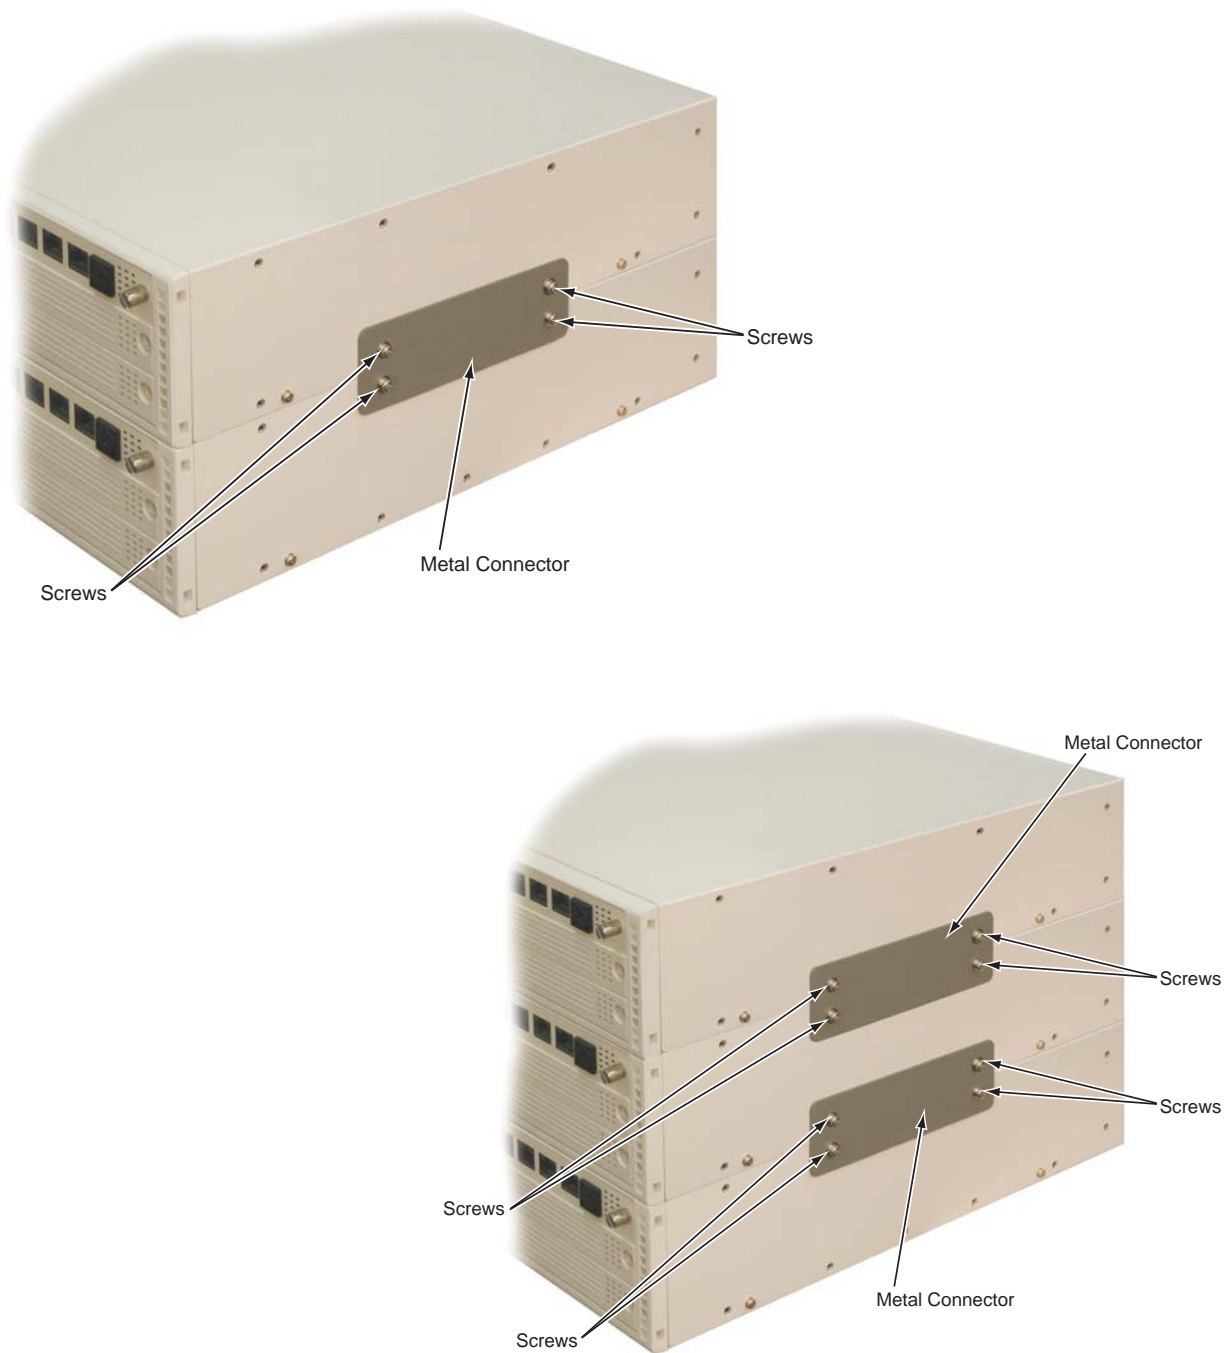

Figure 1-83: SECURING THE CHASSIS TOGETHER
1.7.8 Securing Multiple Chassis-As to the Floor (Figure 1-77 - Figure 1-83)